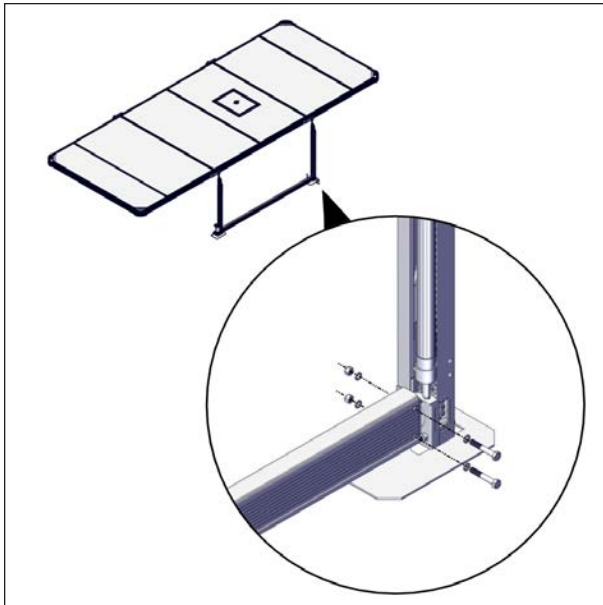

FIGURE 80: U-FRAME INSTALLATION
4. Install the U-frame over the drive shaft. The U-frame is attached to the post bracket of the motor and non-motor jacks. Fasten in place using the hardware provided: four hexagonal 5/16" x 2" screws, four 5/16" nylon insert locknuts, and eight 5/16" flat nylon washers. Use a 1/2" (13 mm) socket wrench and spanner see Figure 80.